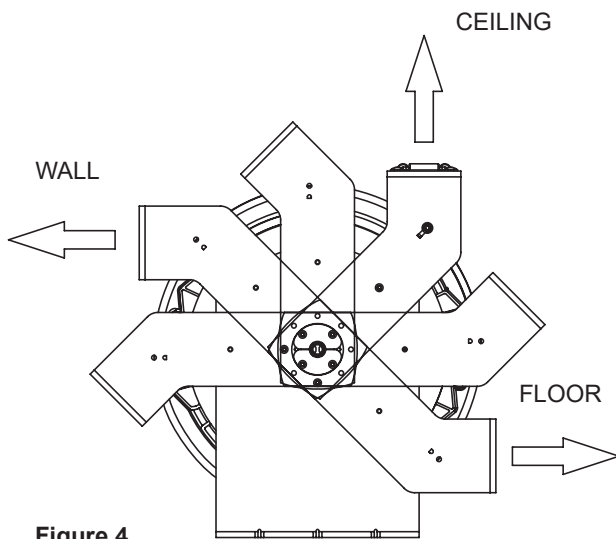

Figure 4
8. For smooth operation and longer life, position the reel mounting brackets as per Figure 4, with hose outlet always allowing for the tangent in relation to the reel and hose.